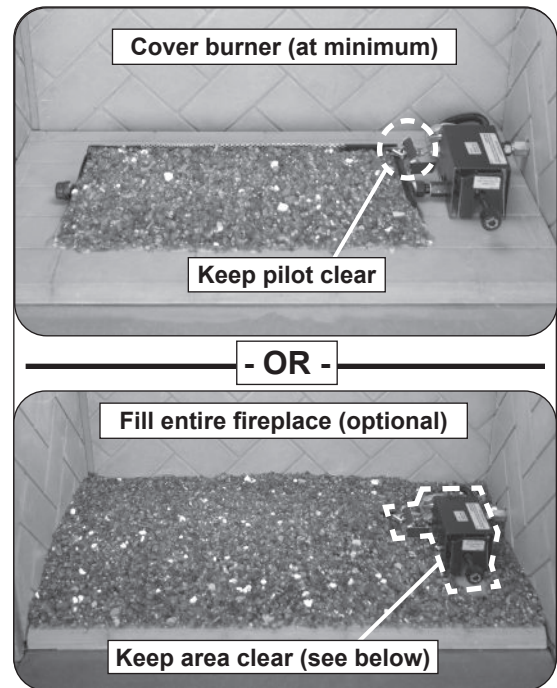
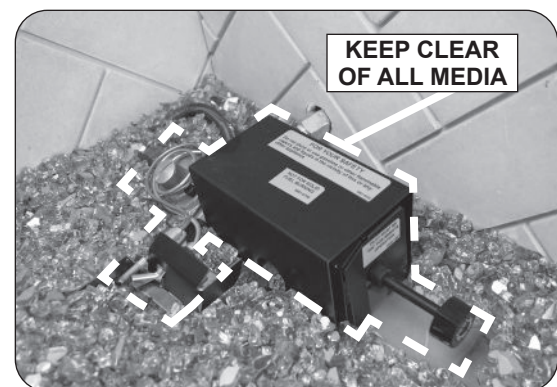

Fig. 20-1 Glass media placement
Fig. 20-3 Keep pilot, valve, & shield clear
1. After the required sand/vermiculite and screen have been placed, pour the glass media (glass, gems) so that the burner pan is covered completely and evenly (see Fig. 20-1).
- DO NOT place any glass media directly on the pilot assembly, on or within the heatshield, or under a knob if one exists at the front of the valve (see Fig. 20-1 and Fig. 20-3).
2. Complete placement by pouring the remaining glass media on the floor of the fireplace, around the front, rear, and sides of the burner system (see Fig. 20-1).
KEEP SAND/VERMICULITE, GLASS/GEMS, AND ALL FOREIGN OBJECTS AWAY FROM THE PILOT ASSEMBLY, VALVE ASSEMBLY, AND HEAT SHIELD DURING MEDIA PLACEMENT AND AT ALL TIMES. SEE FIG. 20-3.